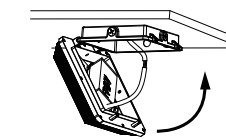

FIGURE 2-7
7. Turn the radiator up then cover the driver box (Figure 2-7)